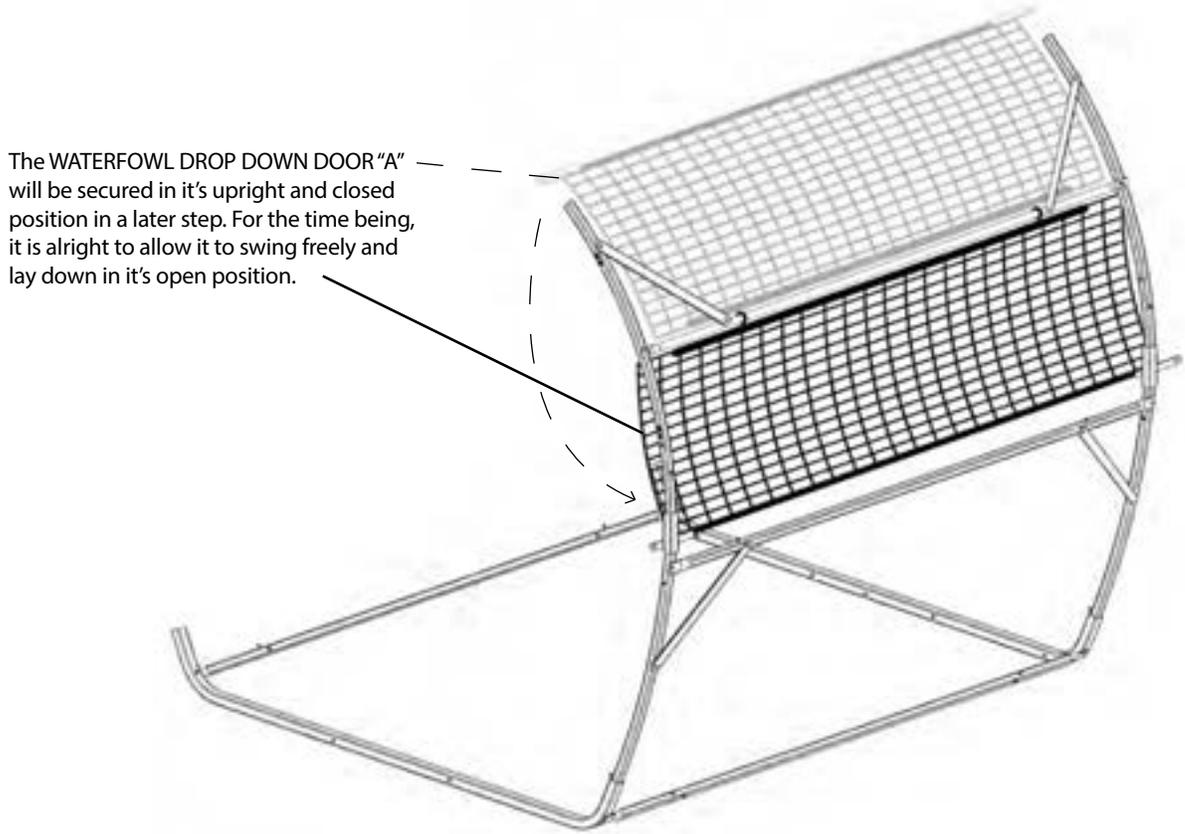

Figure 14.1
STEP 6: Install Section 2 that was created in Step 5, into Section 1 that was created in Step 3, resulting in the frame illustrated in Figure 14.1. The WATERFOWL DROP DOWN DOOR "A" will be secured in it's upright and closed position in a later step. For the time being, it is alright to allow it to swing freely and lay down in it's open position.